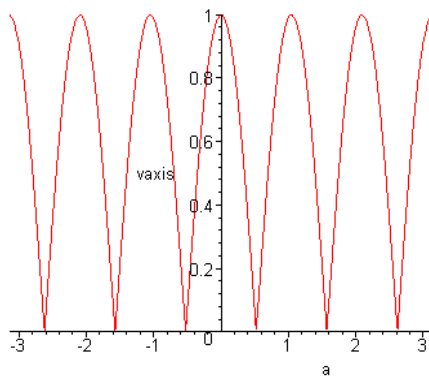

Fig. 15. $thetalfactor = |\cos(6a+f)|$, $a = -\pi - +\pi$
1. Assume that the foliage density inside the crown envelope depends on ϕ , such that for every 60 degrees, there is a 'hot-spot', a branch (Fig. 15). We call this *thetafactor* (0-1).